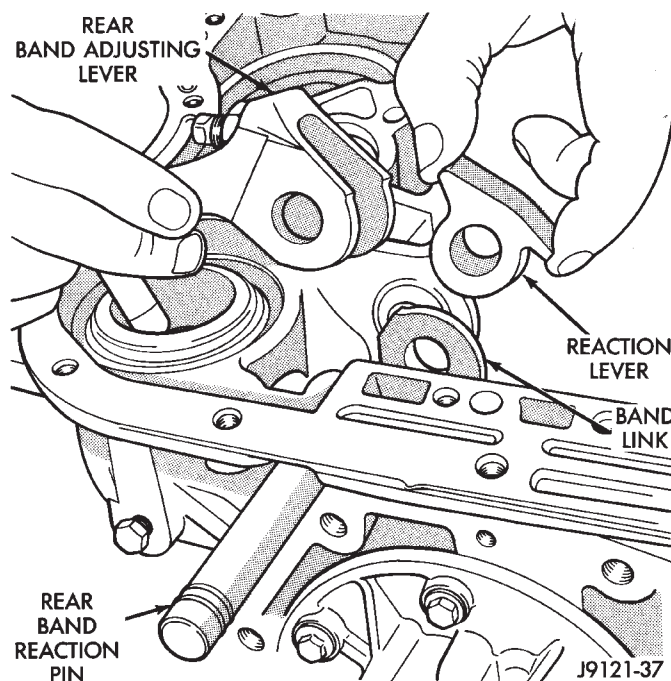
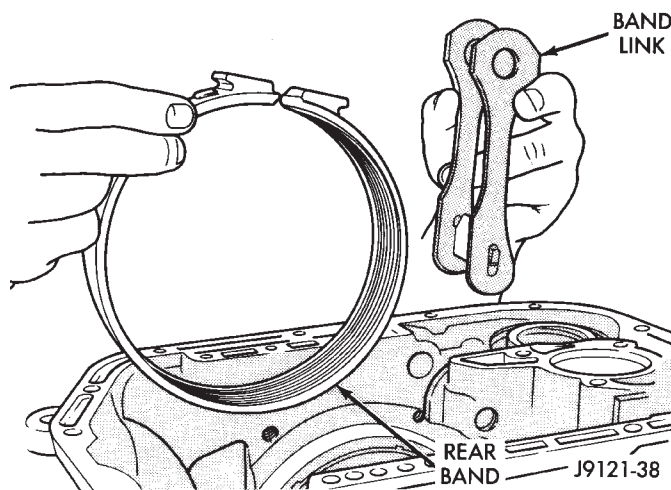

Fig. 117 Rear Band Levers And Pins
Fig. 118 Rear Band And Link
(30) Remove rear band adjusting lever, reaction lever and pin (Fig. 117).
(31) Remove strut from rear band. Keep strut with levers and pin for cleaning, inspection and assembly reference.
(32) Remove rear band and link (Fig. 118).